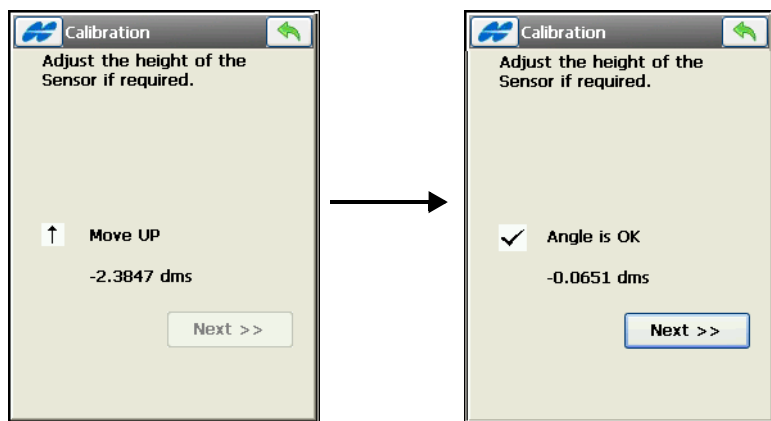

Figure 8-51. Check Angle of Sensor
- **Next** – starts the process of auto-leveling (Figure 8-51 on page 8-48).